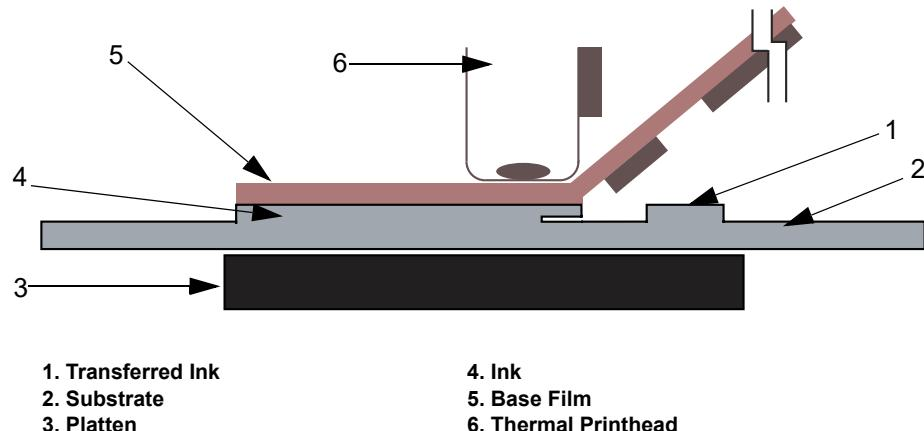

Figure D-1: Printing Process
The following section explains the theory of printing of the thermal transfer printer (Figure D-1):
- The printhead (item 6, Figure D-1) contains miniature heating elements under a glass coating (300 dpi - 12 dots/mm)
- A carrier ribbon (item 5), with ink bonded to one side is used as the printing media
- The printhead presses the thermal transfer ribbon onto the substrate (item 2), with the ink side of ribbon in contact with the substrate